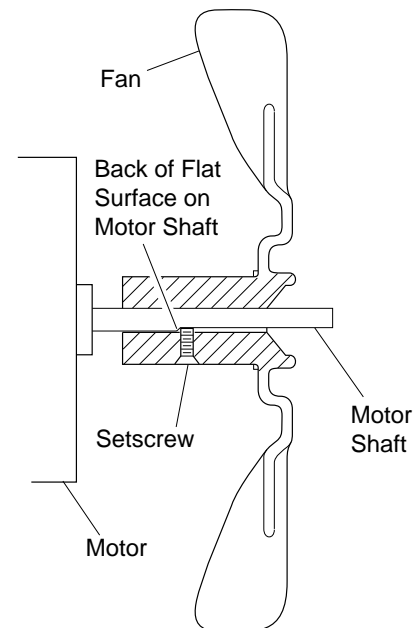

Figure 10 - Fan Cross Section 150,000 BTU/Hr Model
6. (150,000 BTU/Hr Model) Replace fan on motor shaft. Make sure set screw is touching back of flat surface on motor shaft (see Figure 10).